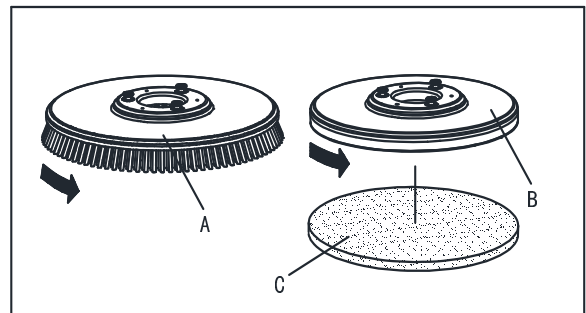

Figure 5
Install either the brush (A, Figure 5) or pad-holder (B and C, Figure5) according to the type of floor to be cleaned.
1. Insert the ignition key (35) and turn it to "O".
2. Lift the deck by pressing the pedal (9).
3. If equipped, turn the speed adjuster (40) to idle by turning it counter-clockwise.
4. Place the brushes (A, Figure5) or the pad-holder (B) under the deck (21).
5. Lower the deck on the brushes/pad-holders by pressing the pedal (9).
6. Turn the ignition key (35) to "I".
7. Brush/pad-holder and vacuum system switch (46).
8. Press one of the Brush/forward gear switch (34) to engage the brush/pad-holder, then release it. If necessary, repeat the procedure until the brushes/pad-holders are engaged.
9. If Step No.8 above proves to be difficult, use the manual method by turning the brush/pad-holder in the direction opposite to the normal turning direction, and it can be taken off. (as shown in Figure 5)